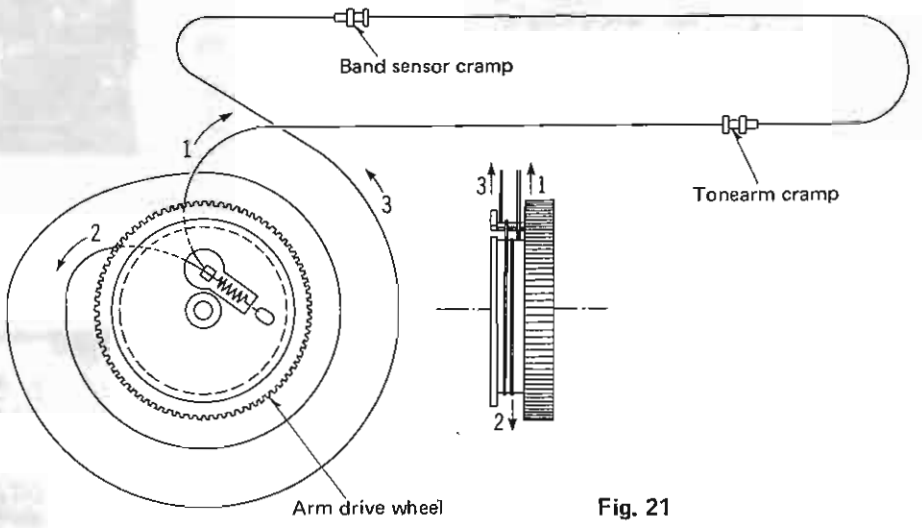

Fig. 21
3. Set the rope over the arm drive wheel in order (1 ~ 3) as shown in Fig. 21.
5. Slide the tonearm and the record band sensor; secure the parts to the rope clamp. (See Fig. 21)